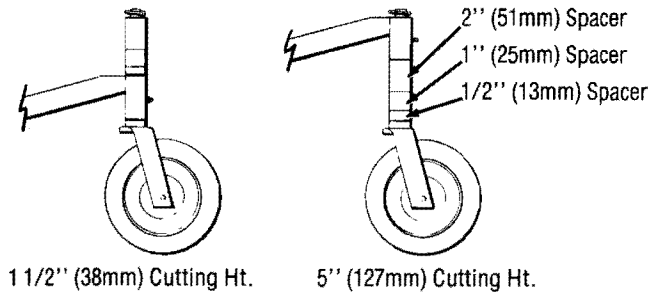

Figure 5 Setting Height of Rear Wheels
3. Remove the lynch pins atop the gauge wheels and position the spacers as necessary to obtain desired gauge wheel (cutting) height (see Fig. 5). Replace lynch pins.